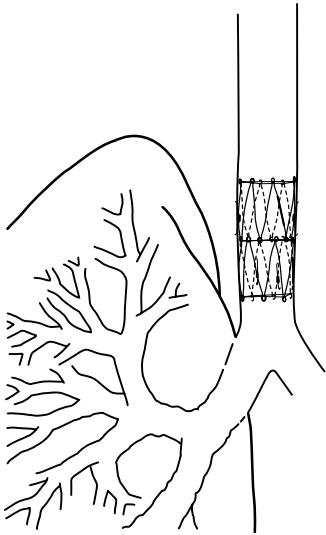

Fig. 7
16. Perform a post-placement chest radiograph to confirm stent position and tracheobronchial patency. (Fig. 7) **Long-term patency with the stent has not been established; therefore, periodic evaluation is advised.**